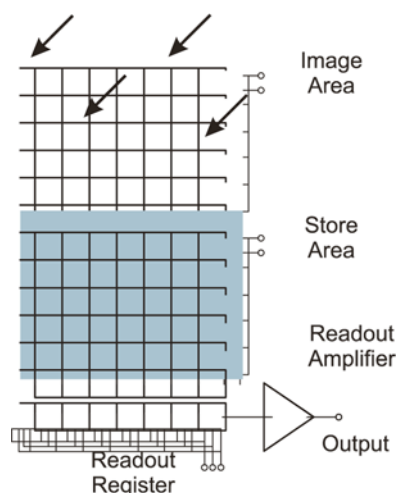

FIG. 7 Typical Sketch of a Frame-Transfer CCD
**frame-transfer CCD,  $n$** —a type of CCD whose active image area is divided into two sections, that is, image area and the storage area. The image area is the light sensitive area of the CCD and the storage area is masked to make it insensitive to light (see Fig. 7).